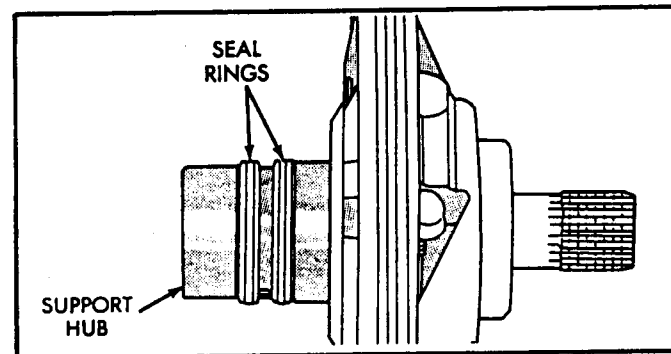

Figure 56
24. Install 2 new sealing rins onto pump reaction shaft support. Squeeze each ring until ring ends are securely hooked together (See Figure 56).